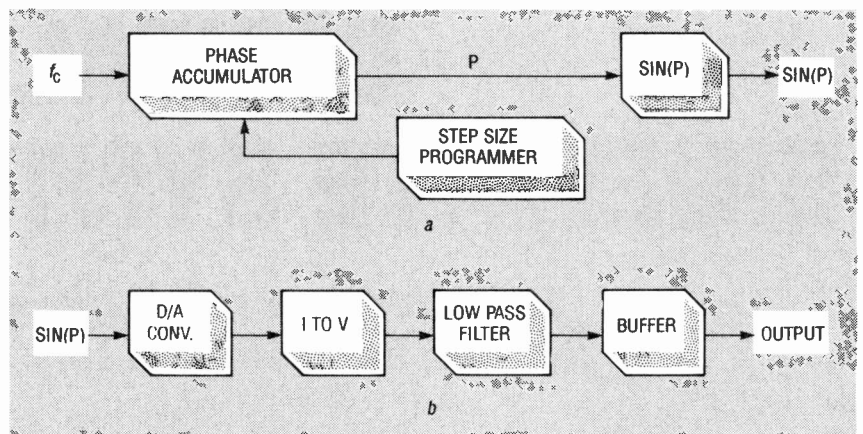

FIG. 3—BLOCK DIAGRAM of the phase accumulator and phase-to-sine converter (a), and the block diagram of the digital-to-analog converter and output stage (b).
FIG. 3—COMPLETE SCHEMATIC of the voice-recognition circuit. The jumper JU1 may be replaced with an SPDT switch to control the operating mode. Either way will work, but the switch is easier to use.
Figure 3 shows the complete schematic for the experimenter's version of the voice-recognition project. Note that the schematic of the working version would be exactly the same, except for the
Figure 3-a shows a block diagram of the system. The block labelled Phase Accumulator repetitively adds the value set by the Step Size Programmer to the sum performing the function of stepping the radius (R) about the circle in equal phase increments. The phase accumulator behaves like a simple counter, except that
The digital data present at the output of the SIN(P) block must be converted to an analog voltage in order to be useful. A method for doing this is shown in Fig. 3-b, which consists of a D/A converter, filter, and output amplifier. The filter helps to smooth out the jagged steps in the sine approximation, while the output amplifier buffers the output of the D/A converter. In the actual